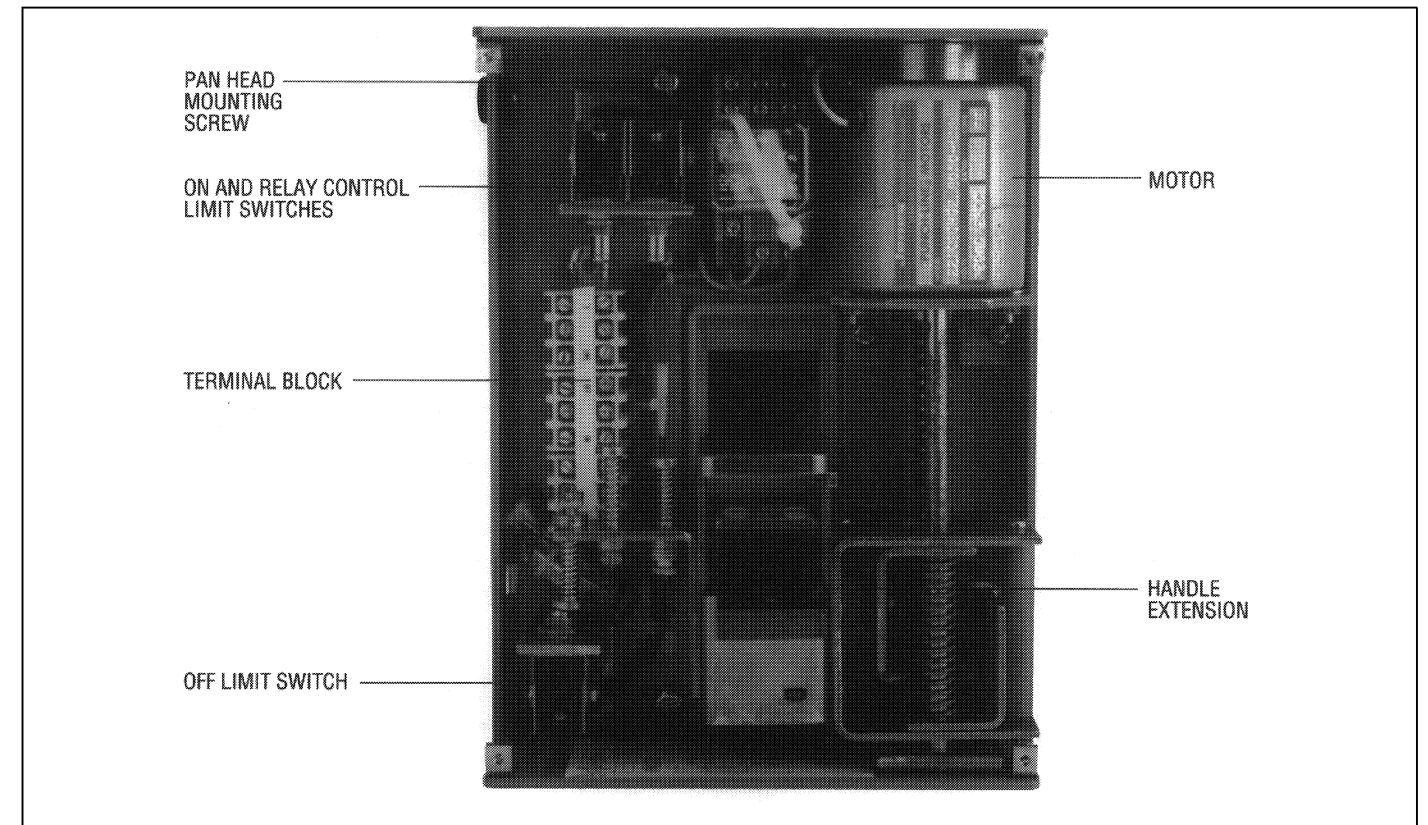

Fig. 2-2. Motor Operator Installed with Front Cover Removed
operator can be mounted (Figure 2-2). Start by removing the spanner nut on each bolt from the already removed breaker. Substitute the longer bolts and reassemble with the nuts.
- f. Remove the four front motor operator cover screws, lockwashers and flat washers. The front cover can now be carefully removed, exposing the inside of the motor operator (Figure 2-2).
2. The OFF limit switch operating plunger should be free to move (change state) (Figure 2-2).
3. The ON limit switch and relay control limit switch plungers should be in a depressed position when the breaker is closed (Figure 2-2).
- 6. The OFF limit switch plunger should be depressed with the circuit breaker open (Figure 2-2).